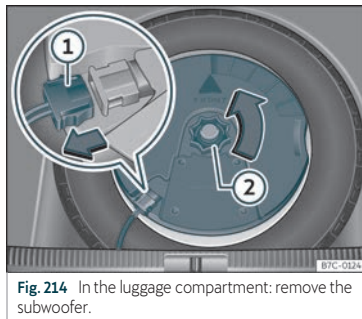

Fig. 214 In the luggage compartment: remove the subwoofer.
- Disconnect the *subwoofer*»» **Fig. 214** ① speaker cable.
- Turn the securing wheel in an anti-clockwise direction»» **Fig. 214** ②.